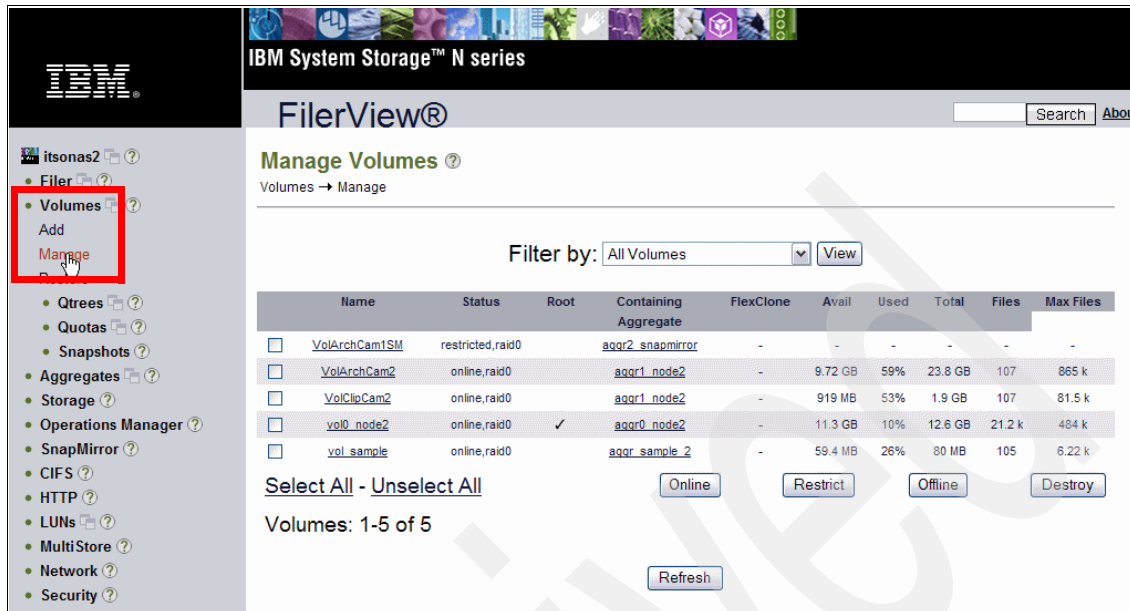

Figure 9-16 Volumes / manage: new configuration
7. **Volumes / Manage**, and verify that the size of the volume was modified, as shown in Figure 9-16 on page 304.